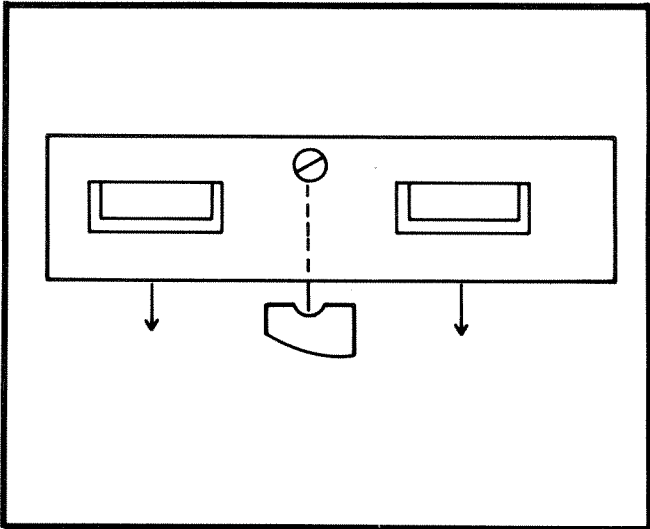

Figure 2-5. Installing Deck on Stand
STEP 6 The unit will be dropped in from the top. It is recommended that assistance be obtained for dropping the unit onto its cradle. The unit weighs 91 pounds. The two-slotted screws will rest in the groove provided in the post. (See Figure 2-5.)